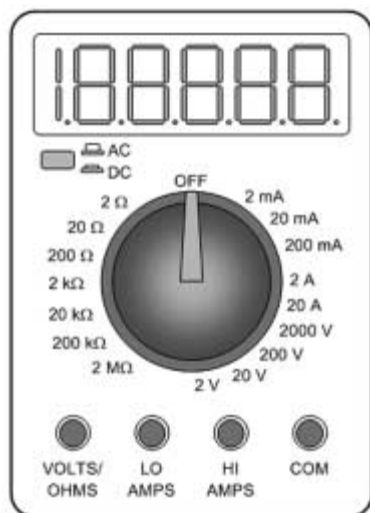

FIGURE B.1 Typical multimeter.
**W**hen working with a multimeter, there are a few simple rules that ensure safe, proper operation and good readings. A multimeter measures current, voltage, and resistance. You need to select the proper range on the multimeter to have good resolution of the measured value. Figure B.1 shows a typical multimeter face with a range selector knob, AC/DC toggle, and the probe inputs.